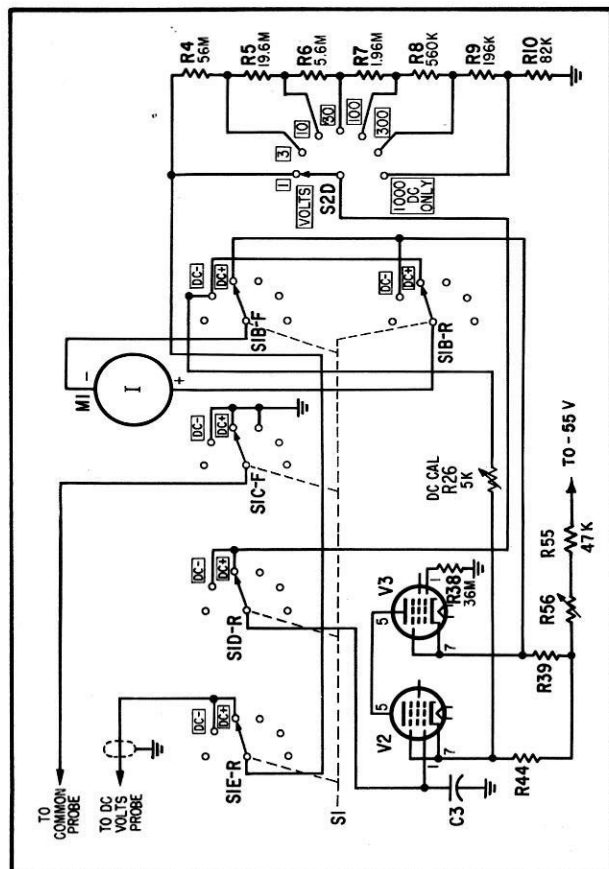

Figure 4-3. DC Voltmeter Circuit, Schematic
b. DC VOLTMETER CIRCUIT (see figure 4-3). - The input voltage is fed through 36 megohm isolation resistor R3 (in DC probe) to function switch S1. From the function switch the voltage is fed to the range switch and then to the grid of V2 in the bridge circuit. This unbalances the bridge as described in paragraph 4-2a and causes the meter pointer to deflect in proportion to the magnitude of the input voltage. Isolating resistor R3, contained in the dc probe, serves to isolate the shunt capacitance of the shielded test lead from the circuit under test. R3 in series with resistors R4 through R10, forms a voltage attenuator. The attenuation is such that the voltage applied to the bridge circuit is the same for full scale deflection on each range. Calibration of the entire dc measuring circuit is accomplished by the internal calibration potentiometer R26. Either plus or minus dc voltages may be measured by setting the function switch to the desired polarity. The high impedance of the voltage attenuator minimizes the loading effect on the circuit under test.